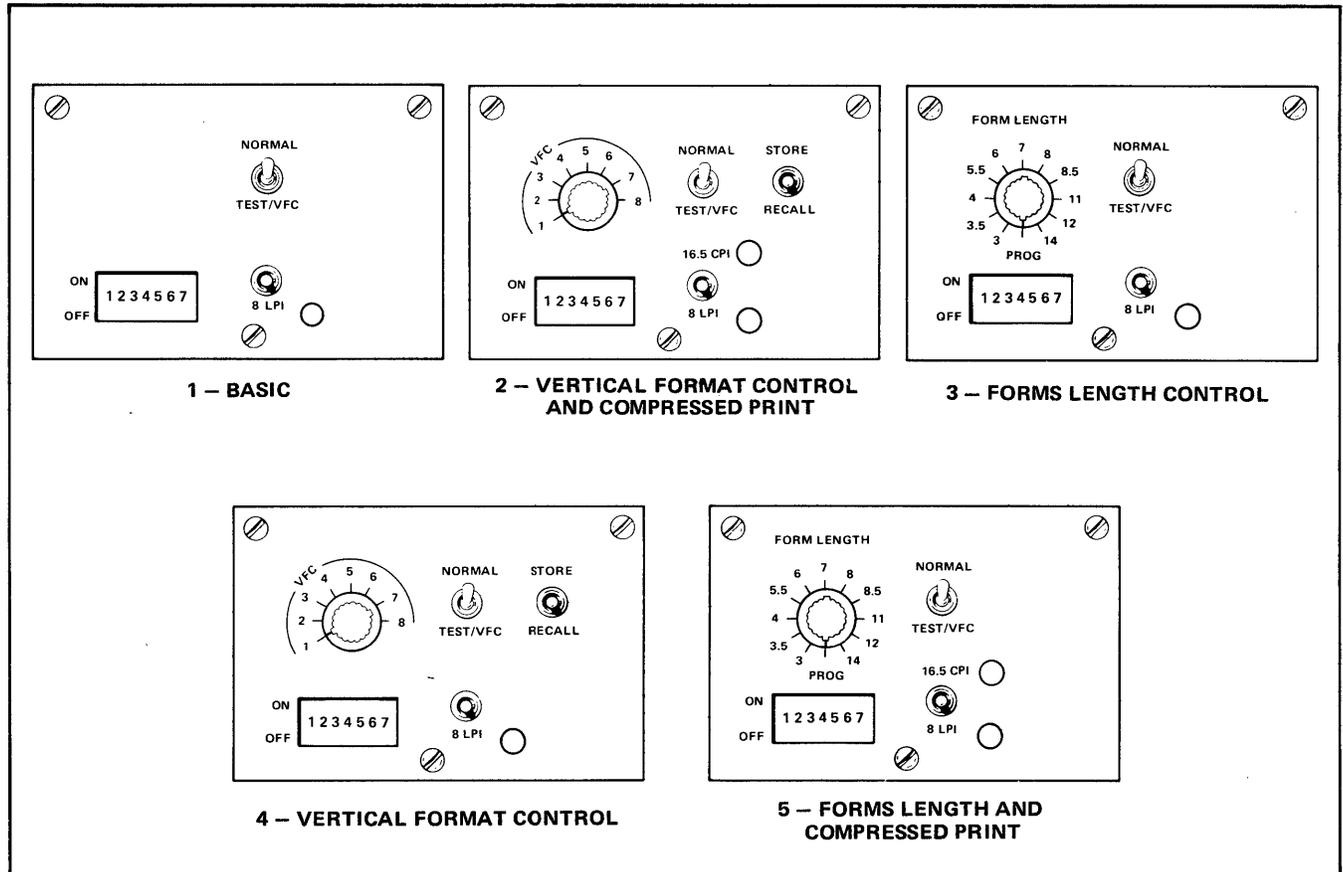

FIGURE 4 – Auxiliary Control Panel Configurations
- Vertical Forms Control (VFC)*† Up to eight software or hardware programmable vertical forms programs can be resident in non-volatile storage. Programs can be stored or recalled by commands from the data source or by operator manipulation of switches on the Model 810 auxiliary control panel. See Figure 4.
- Form Length Control (FLC)* — A hardware option providing a choice of 11 pre-set forms lengths: 76, 89, 102, 140, 152, 178, 203, 216, 280, 305, and 356 cm (3, 3.5, 4, 5.5, 6, 7, 8, 8.5, 11, 12, and 14 inches) plus one *programmable* FLC that allows any form length to a maximum of 112 lines. Hardware programming is performed locally by operator manipulation of applicable switches on the Model 810 auxiliary control panel. See Figure 4.
Auxiliary Control Panel (See Figure 4)